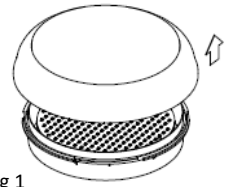

Fig 1
- Remove the diffuser from the base by turning it 45° anti-clockwise and pulling it away from the base – Fig 1